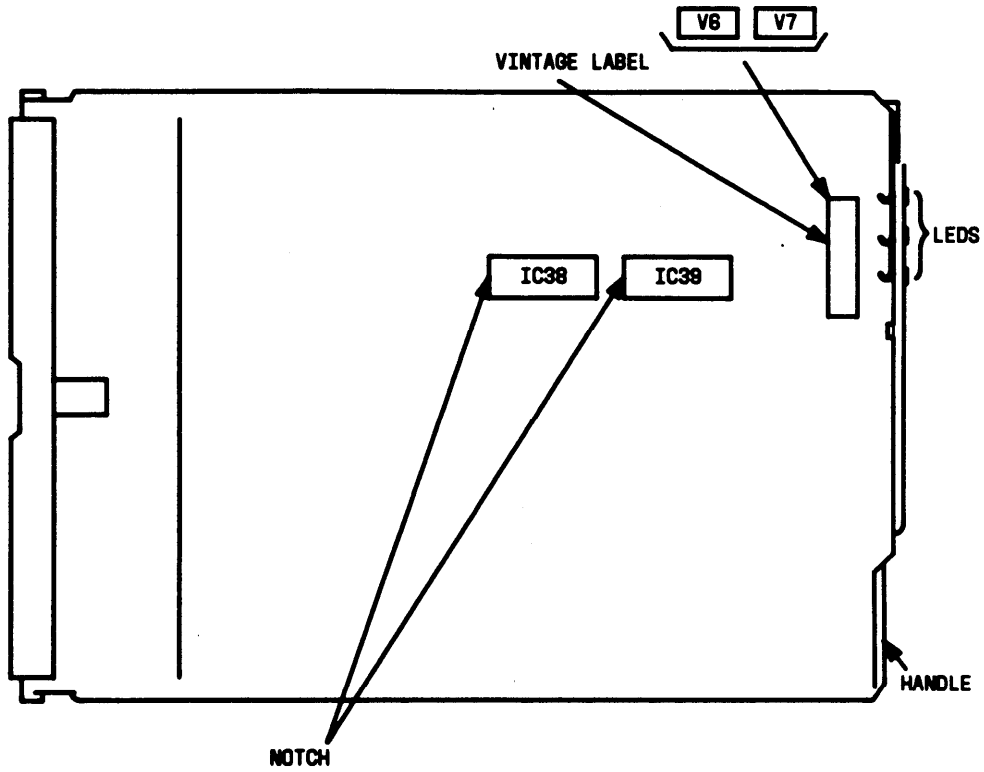

Figure 8. TN711 Processor Circuit Pack IC38 and IC39 Location (Component Side)
2. See Figure 8. Position the TN711 circuit pack so that the component side is up, with connector to the left.